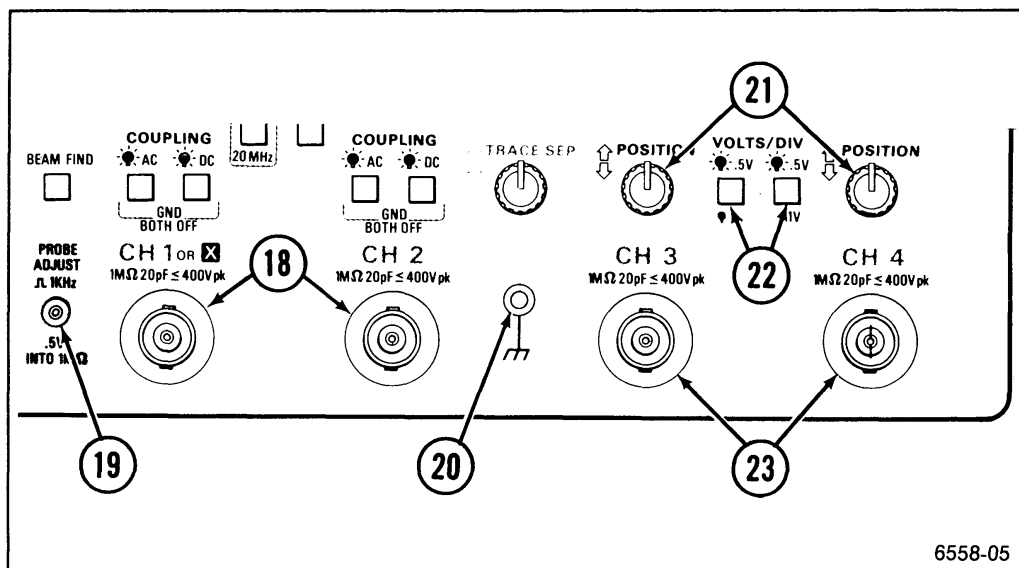

Figure 2-3. Vertical connectors and CH 3 and CH 4 controls and indicators.
Refer to Figure 2-3 for location of items 18 through 23.